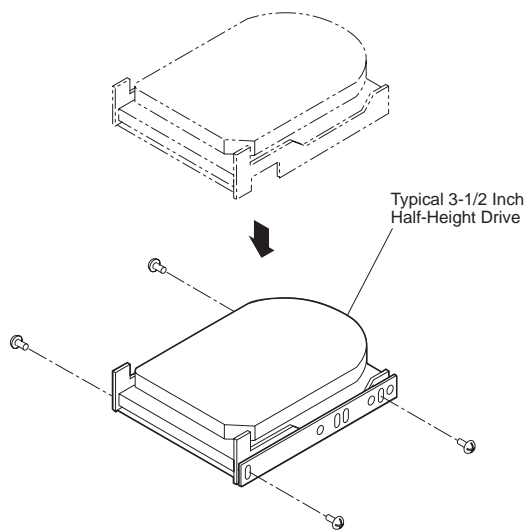

Figure 11: Installing the Drive into the Drive Mounting Bracket
6. Install the drive(s) into the drive mounting bracket using four (4) 6-32 x 1/4" screws (Figure 11). Do not fully tighten the screws on removable media devices.